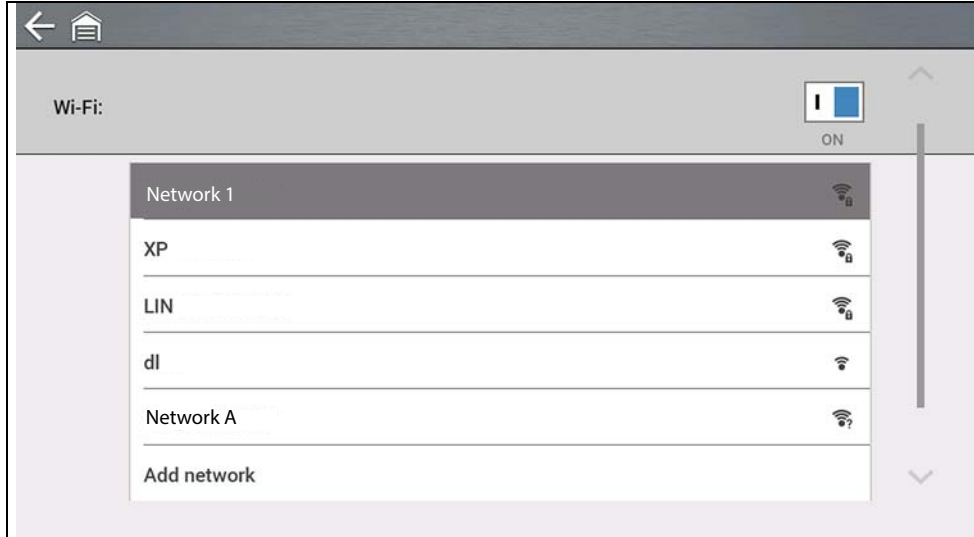

Figure 14-2
2. To connect, select your network from the available networks (Figure 14-2).